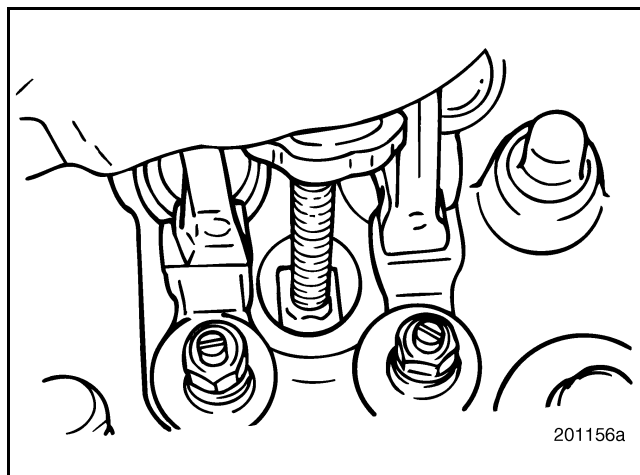

Figure 283 — Nozzle Holder Installation
5. After ensuring that the nozzle holder locator pin is properly aligned with the alignment notch in the nozzle holder sleeve, push downward on the handle of the installation tool driving the nozzle holder into position. Refer to Figure 283.